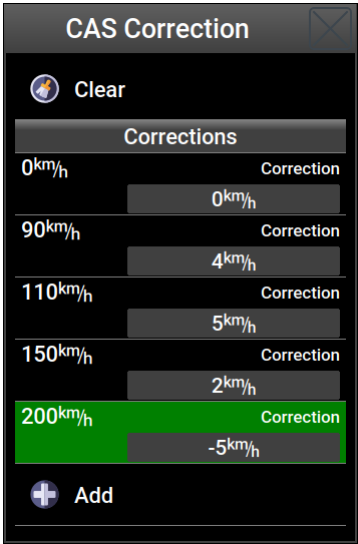

Figure 4.35: An example of the CAS correction table.
2. Enter points as shown in the Figure 4.35.